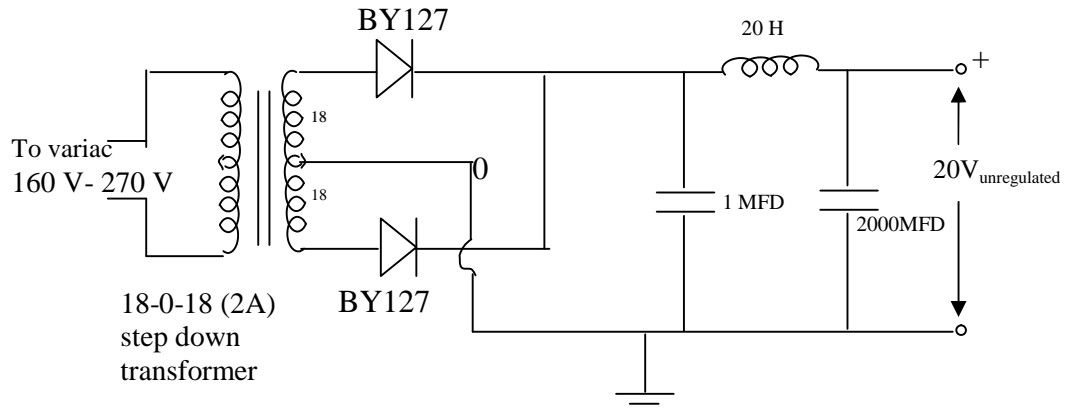

FIG 2: UNREGULATED DC SUPPLY
3. Connect an unregulated power supply of 20 V DC (see Fig 2) to the regulator section. Keep the ac input to the unregulated supply at 220V AC Adjust the output voltage to 10V DC by varying the potentiometer.